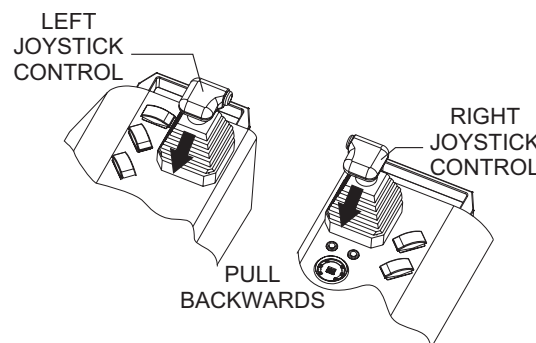

Figure 21. Joystick Control Reverse Direction
7. Pull both the left and right joysticks backward (Figure 21) and repeat steps 3 through 6 while substituting the word 'reverse' for 'forward.'